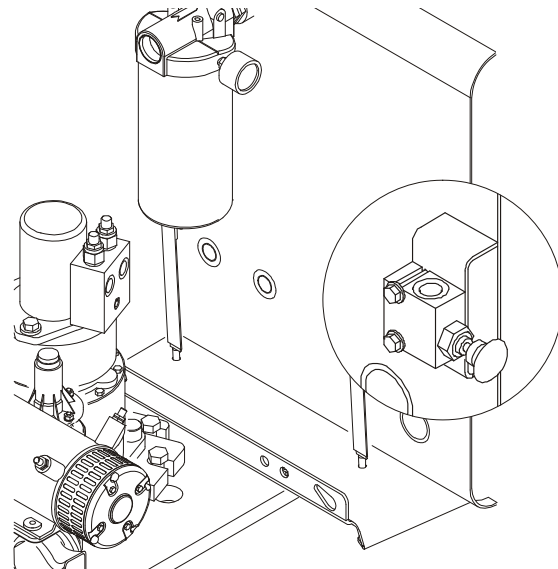

Figure 4-25. Releveling Valve
3. Pull and hold the red relevel knob located next to the main control valve. Refer to Figure 4-25.